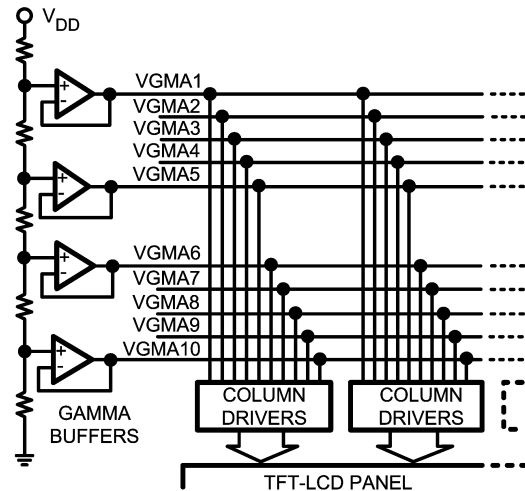

FIGURE 9. Basic Gamma Buffer Configuration
*Figure 9* shows how column drivers in a TFT display are connected to the gamma levels. VGMA1, VGMA5, VGMA6, and VGMA10 are driven by the Gamma Buffers. These buffers serve as low impedance voltage sources that generate the display's gamma levels. The Gamma Buffers' outputs are set by a simple resistive ladder, as shown in *Figure 9*. Note that VGMA2 to VGMA4 and VGMA7 to VGMA9 are usually connected to the column drivers even though they are not driven by external buffers. Doing so, forces the gamma levels in all the column drivers to be identical, minimizing grayscale mismatch between column drivers. Referring again to *Figure 9*, the resistive load of a column driver DAC (i.e. resistance between GMA1 to GMA5) is typically 10k $\Omega$  to 15k $\Omega$ . On a typical display such as XGA, there can be up to 10 column drivers, so the total resistive load on a Gamma Buffer output can be as low as 1k $\Omega$ . The voltage between VGMA1 and VGMA5 can range from 3V to 6V, depending on the type of TFT panel. Therefore, maximum load current supplied by a Gamma Buffer is approximately 6V/1k $\Omega$  = 6mA, which is a relatively light load for most op amps. In many displays, VGMA1 can be less than 500mV below  $V_{DD}$ , and VGMA10 can be less than 500mV above ground. Under these conditions, an op amp used for the Gamma Buffer must have rail-to-rail inputs and outputs, like the LM6588.